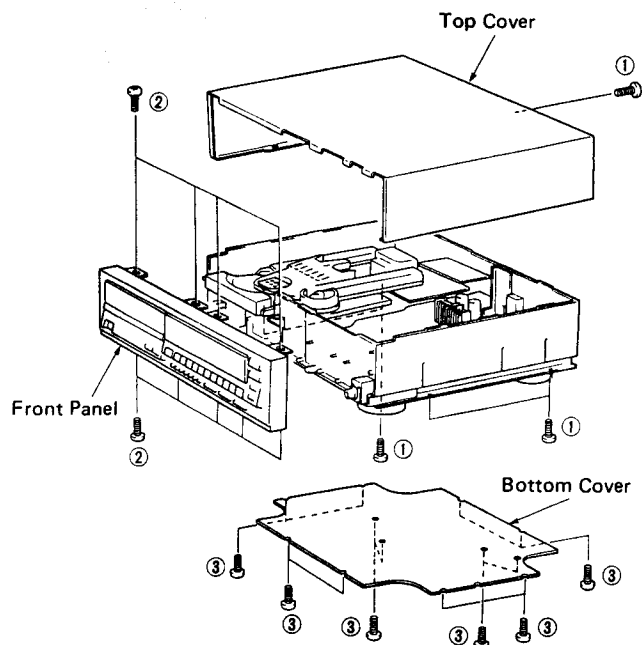

Fig. 1
- Remove 5 screws (①) in Fig. 1, and slide the Top Cover to the back side.
- Remove 9 screws (②) in Fig. 1, and pull the Front Panel forward.
- Remove 12 screws (③) in Fig. 1.